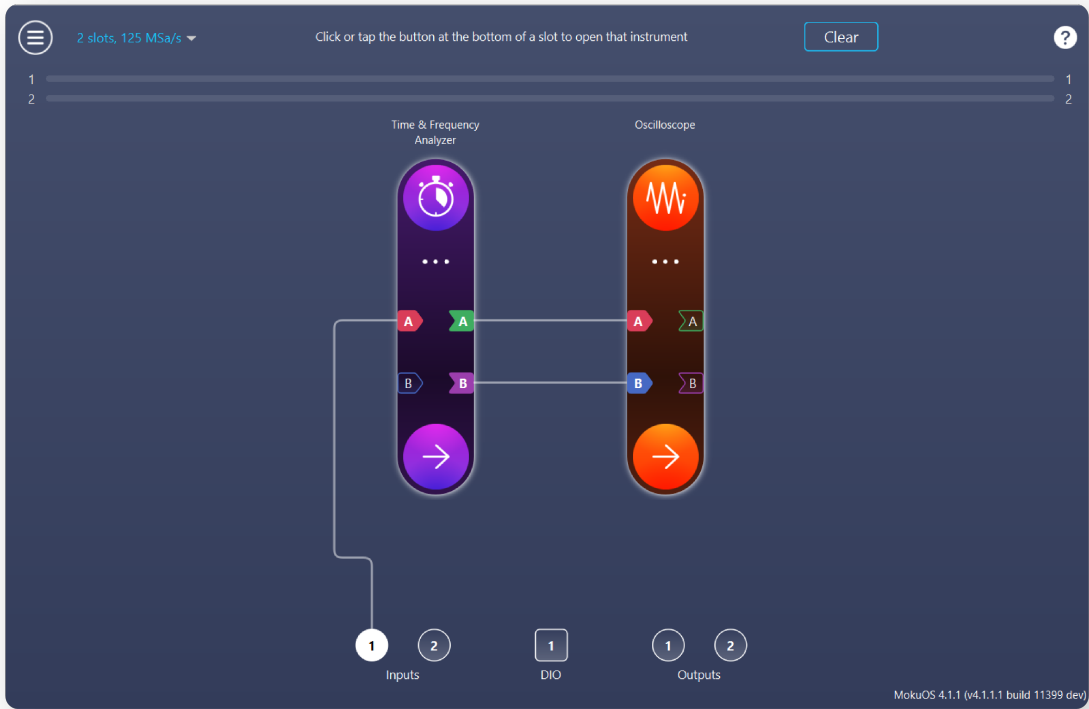

Figure 37. Multi-Instrument Mode setup of the Time & Frequency Analyzer and Oscilloscope used to decode PWM.
- Ensure the Slot 1 signal Output A is routed to the Input A of Slot 2, and press  to sync the instrument slots, found in the main menu  (Figure 37).